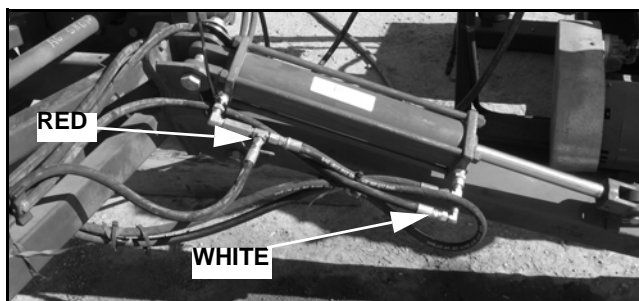

Figure 3.68
- Connect hose ends to outrigger cylinder as shown in Figure 3.68.